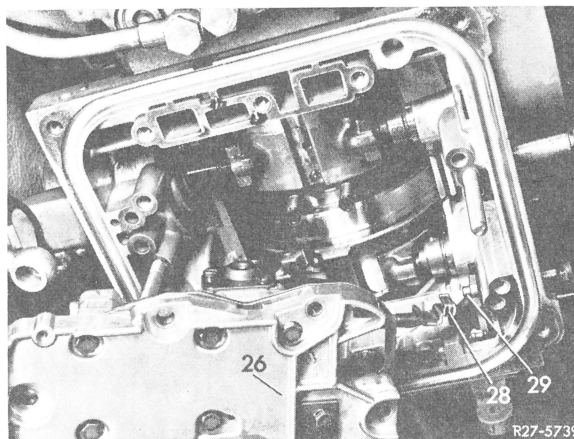

Fig. 6
8 Carefully introduce shift valve housing (26) into transmission. Make particularly sure that the range selector valve (28) enters correctly into detent plate (29) (Fig. 6).